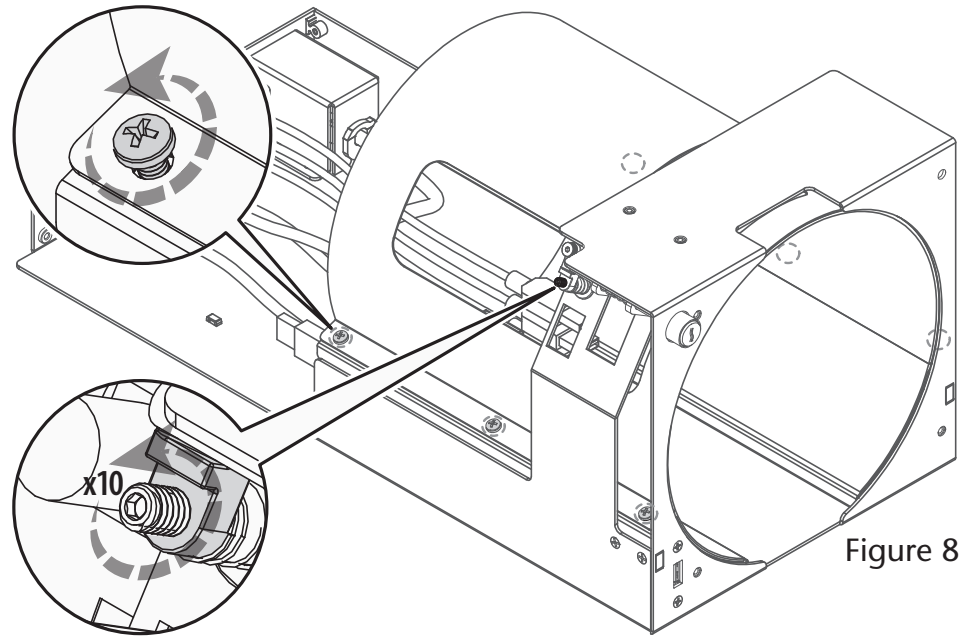

Figure 8
1. Using a Phillips screwdriver loosen, but do not remove, the six screws securing the computer mounting module's top bracket to its bottom bracket (Figure 8).
2. Using the included 5/64-inch hex wrench, back out the computer mounting module's power switch set screw by turning the screw counter-clockwise 10 complete turns (Figure 8).